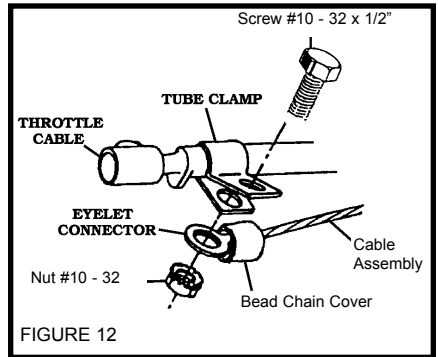

FIGURE 12
1. Select a **TUBE CLAMP** that fits the throttle cable. Make sure the tabs of the **TUBE CLAMP** point away from the carburetor or air throttle, this will prevent the throttle from hanging. **Figure 12**
3. Put **SCREW #10-32 x 1/2** through the holes in the **TUBE CLAMP**. Slide the **EYELET CONNECTOR** over the screw. Thread the **NUT #10-32** onto the screw and tighten. **Figure 12**